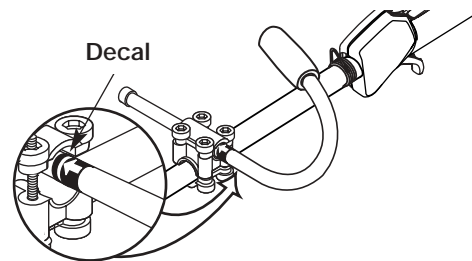

Fig. 4
5. Slide the J-handle in or out until the arrow/white line on the decal touches the clamp assembly (Fig. 4). You must first loosen the screws if the handle is pre-installed.